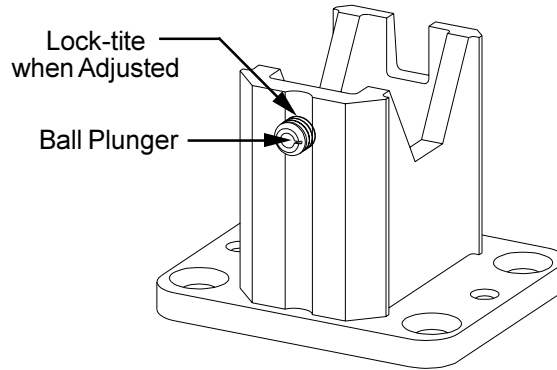

Figure 1
- Adjust ball plunger for top and bottom fitting. Adjust ball plunger out until ball is compressed when fitting is engaged with mullion. Once adjusted properly, lock-tite in place. See *Figure 1*.